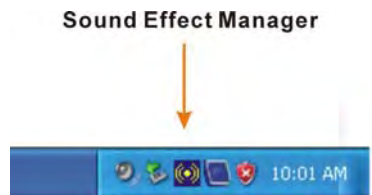

Figure 6-21: Sound Effect Manager Icon [Task Bar]
- The Sound Effect Manager icon in the Notification Area of the system task bar (see Figure 6-21), or